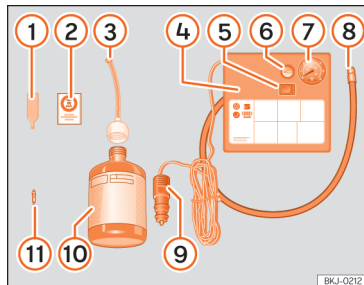

Fig. 31 Standard representation: anti-puncture kit contents.
» **Fig. 31:**
- Unscrew the tyre valve cap and insert. Use the »» Fig. 31 ① tool to remove the insert. Place it on a clean surface.
- Shake the tyre sealant bottle vigorously »» Fig. 31 ⑩.
- Screw the inflator tube »» Fig. 31 ③ into the sealant bottle. The bottle's seal will break automatically.
- Remove the lid from the filling tube »» Fig. 31 ③ and screw the open end of the tube into the tyre valve.
- Place the insert back into the tyre valve using the tool »» Fig. 31 ①.
- Screw the compressor tyre inflator tube »» Fig. 31 ⑧ into the tyre valve.
- Check that the air bleed screw is closed »» Fig. 31 ⑥.
- Insert the connector »» Fig. 31 ⑨ into the vehicle's 12-volt socket »» page 136.
- Turn the air compressor on with the ON/OFF switch »» Fig. 31 ⑤.
- Attach the sticker »» Fig. 31 ② to the instrument cluster, within the driver's visual field.
Screw the inflator tube >>> **Fig. 31** ⑤ again and check the pressure on the gauge ⑥.